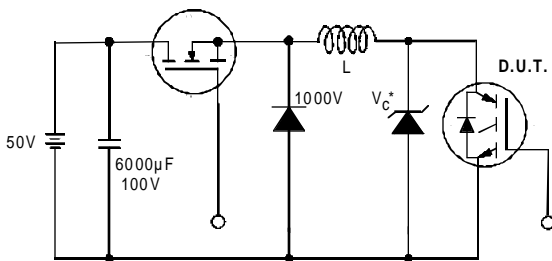

Figure 19. Clamped Inductive Load Test Circuit
- ② $V_{CC}=80\%(V_{CES}), V_{GE}=20V, L=10\mu H, R_G=23\Omega,$ (See fig. 19)
- ③ Pulse width $\leq 80\mu s$; duty factor $\leq 0.1\%$.
- ④ Pulse width 5.0 μs , single shot.
- ② $V_{CC}=80\%(V_{CES})$, $V_{GE}=20V$, $L=10\mu H$, $R_G = 10\Omega$ (Figure 19)
- ④ Pulse width $5.0\mu s$, single shot.